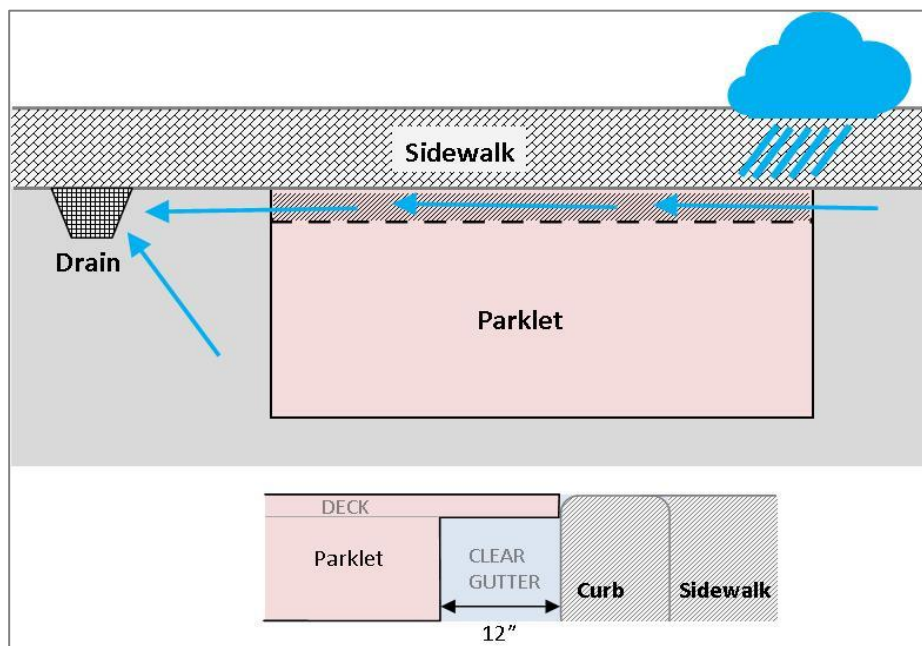

Figure 3 Drainage
- The parklet platform must be designed to allow for curbline stormwater drainage and include a minimum twelve (12") inch gutter bar. Please refer to Figure 3. The parklet platform must be designed to not allow debris to collect underneath the deck.